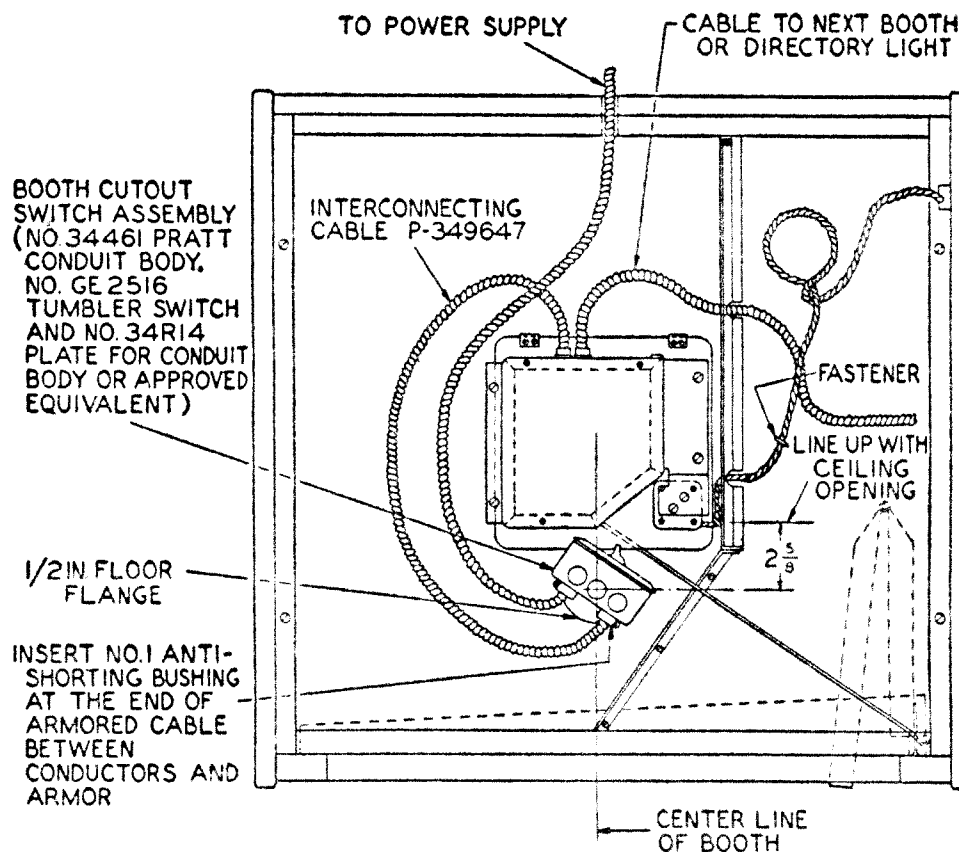

Fig. 7—Typical Cutout Switch Installation with 4-Type Light Fixture
6.03 Each booth should be equipped with a light and a power cable or an interconnecting cable. Power cables, when provided on booths, are equipped with a plug for attachment to an electrical-outlet receptacle. Booths may also be ordered equipped with cutout switches if desired. A booth equipped with a switch located on the booth ceiling is shown in Fig. 7. Select cables from the types listed in Section C44.131, Telephone Booths, Supplies. **Rubber-covered cables other than the No. 18 high-temperature blower cable should not be used with the 4-type fixture.**
6.17 Where it is desirable to arrange one or a group of booths so that the circuit may be opened from within a booth, a cutout switch may be installed as shown in Fig. 7. A 1/2-inch floor flange is fastened to the top of the ceiling, and the switch box is fastened to it by means of a chase nipple through the middle knockout hole in the side of the box. The toggle of the switch is located so that it will be accessible from within the booth through the opened light fixture. In booths equipped with the 3-type light fixture, the switch should be placed immediately to the right of the fixture instead of at the front, to make the switch toggle accessible from within. In the latter case, the P-349715, 16-inch, low-temperature booth cable may be used in place of the P-349647 shown in Fig. 7.